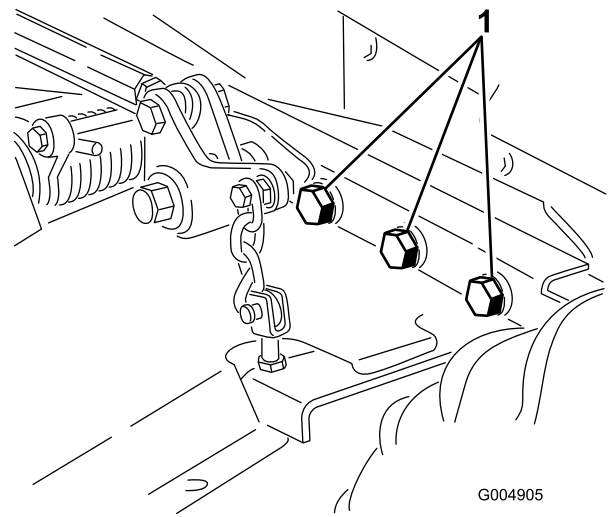

Figure 94
5. Check all fasteners for looseness and tighten them as necessary. Torque the 6 bolts securing the mower deck frame to the traction unit (Figure 94) to 359 N·m (265 ft-lb).